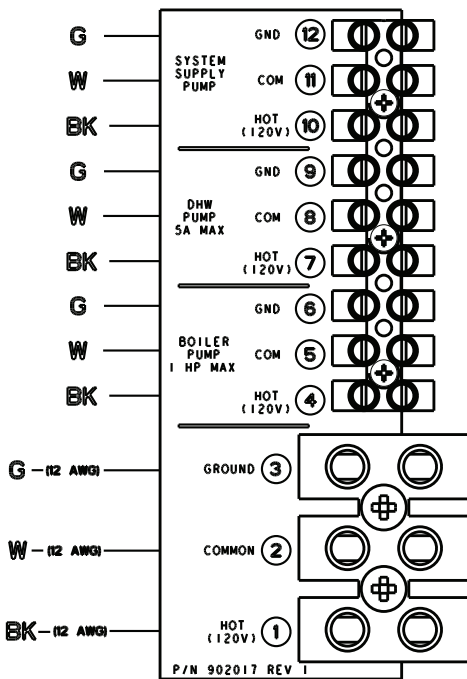

Fig. 19: XFire Cascade Master Pumps
1. On the boiler designated as the Master, connect the system pump wiring to the terminal block at the rear of the unit. Connect to terminals 10, 11, and 12 (See Fig. 19). The output is rated for pilot duty only (2A maximum).
2. Connect the boiler pump wires to the terminal block at the rear of their unit. Connect to terminals 4, 5, and 6 (See Fig. 19).
2. For each follower boiler, connect the boiler pump wires to the terminal block at the rear of each unit. Connect to terminals 4, 5, and 6 as shown in Fig. 19.